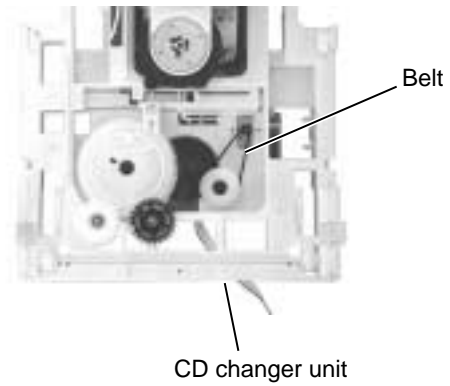

Fig.9
■Removing the belt, the CD servo board and the switch board (See Fig.9 and 10)